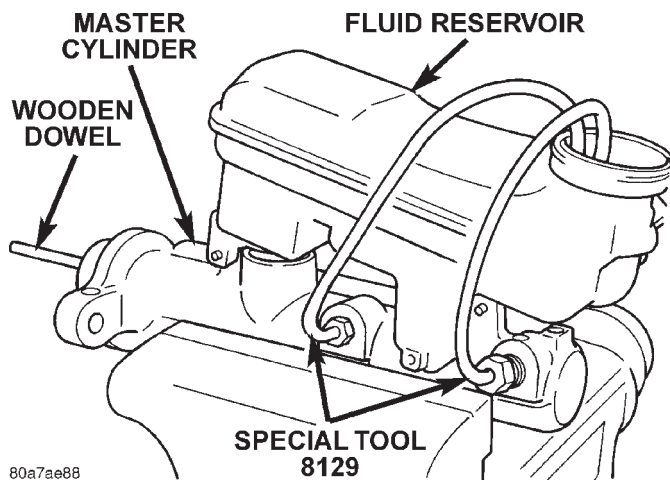

Fig. 87 Bleeding Master Cylinder
- (1) Clamp the master cylinder in a vise (Fig. 87).
- (2) Attach Bleeding Tubes, Special Tool 8129 to master cylinder (Fig. 87). Position the bleed tubes in the fluid reservoir of the master cylinder so the outlets are below the surface of the brake fluid when the reservoir is filled to the proper level.
- (3) Fill reservoir with brake fluid conforming to DOT 3 specifications such as Mopar or an equivalent.
- (4) Using a wooden dowel per (Fig. 87), fully depress master cylinder pistons slowly then release allowing pistons to return to the released position. Repeat several times until all air bubbles are expelled.